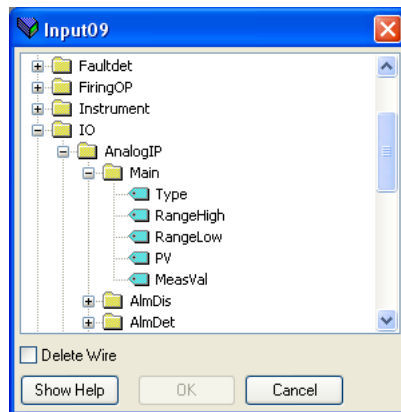

Figure 140 Browser window
1. Double click the next available position in the input or output data table and select the variable to assign to it. A pop-up (Figure 140) provides a browser from which a list of parameters can be opened.